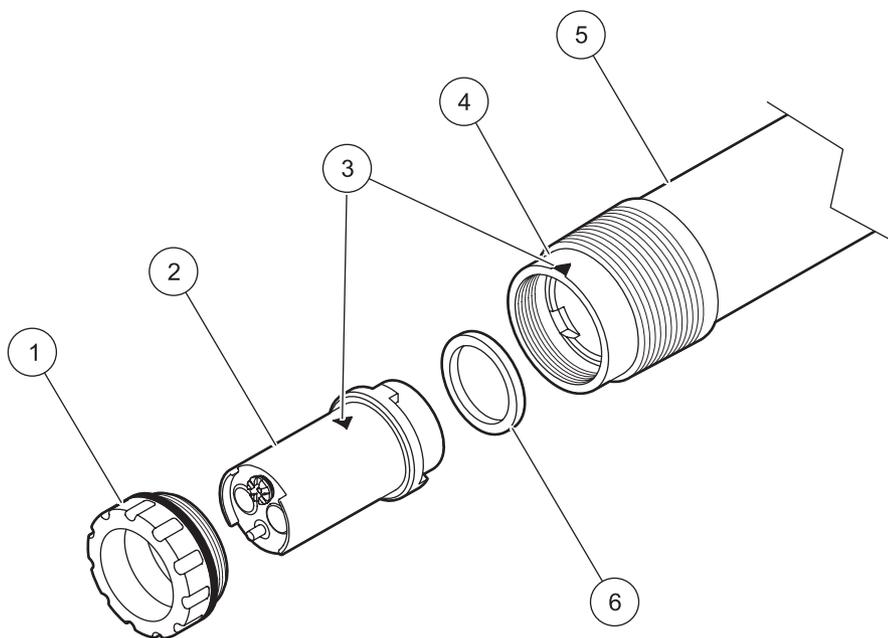

Figure 7 Sensor assembly
Important Note: The sensor cartridge only fits correctly in the sensor adapter in one position. Pay attention to the markings on the sensor cartridge and on the sensor adapter (see Figure 7 on page 12).
3. Align the markings on the sensor cartridge with the sensor adapter (see Figure 7 on page 12) and connect the sensor cartridge into the sensor adapter.